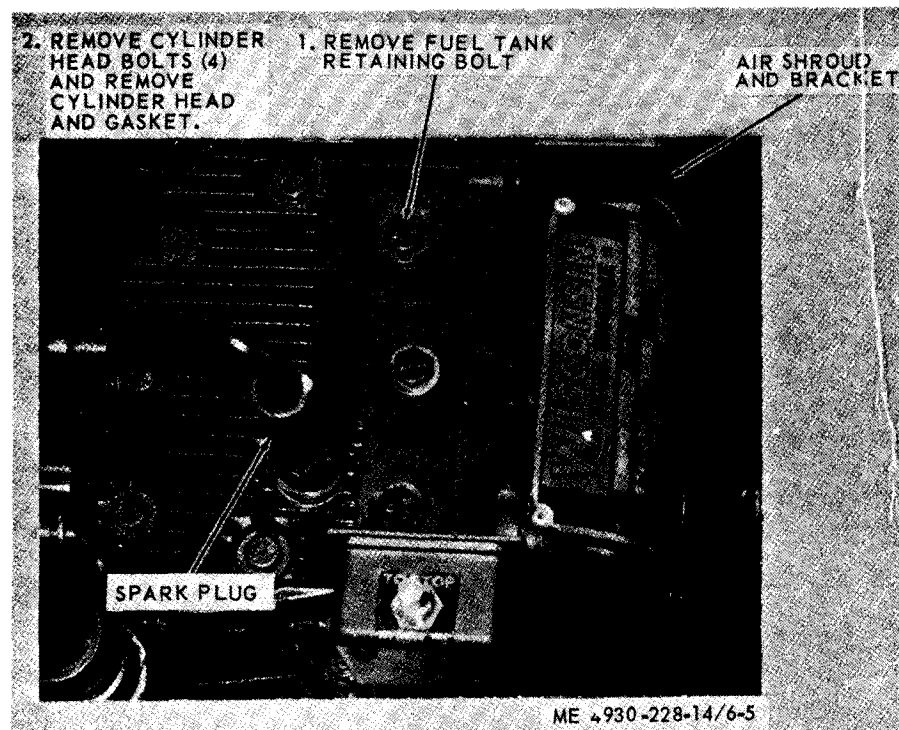
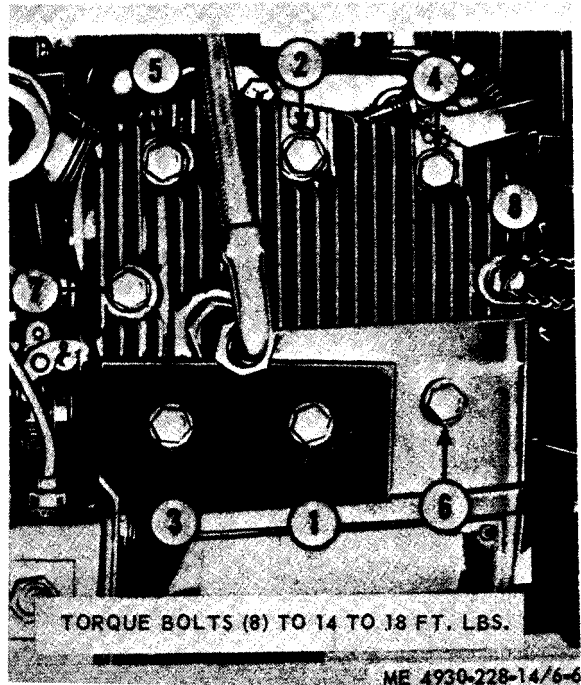

Figure 6-5. Cylinder head removal.
Figure 6-6. Cylinder head bolts tightening sequence.
- (1) Remove the spark plug (para 4-20).
- (2) Remove the air shroud and bracket (para 4-18).
- (3) Refer to figure 6-5 and remove the cylinder head and gasket.
(1) Refer to figure 6-5 and install the cylinder head, using a new gasket. (Installation procedure is reverse of removal.)
(2) Install the air shroud (para 4-18).
(3) Install the spark plug (para 4-21).
(4) After installation of air shroud, torque all cylinder head mounting bolts, following the sequence shown in figure 6-6.